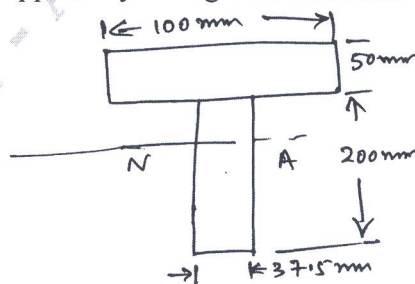

Fig Q6(b)
- b. The T-section of a beam is as shown in Fig Q6(b). Determine maximum moment of resistance that the beam can support if yielding is to be avoided. (08 Marks)